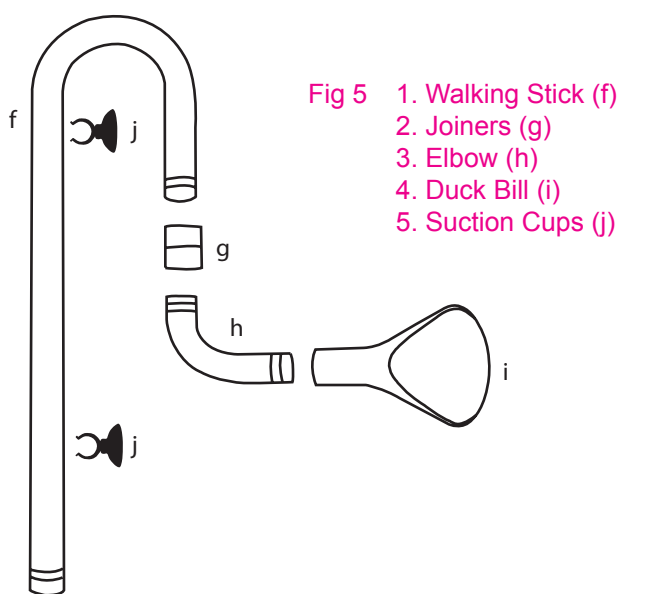

Fig 5 1. Walking Stick (f)
16. Outlet option 2 is the Duck Bill outlet. This can simply be set up anywhere along the back wall or side wall of the aquarium. Refer to Fig 5 for assembly of the duck bill outlet.
15. Clean the impeller well and the outlet channel using a double ended pipe brush. Fig 5